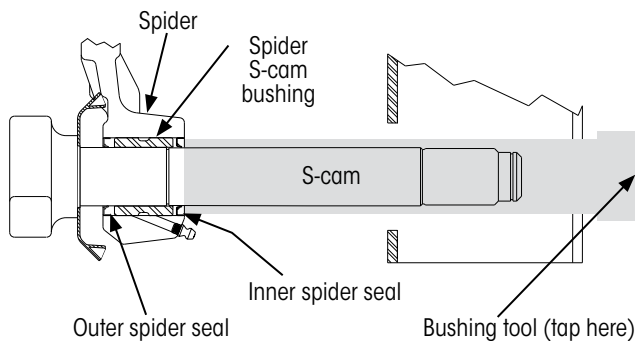

Figure 12: Spider S-cam bushing and outer seal removal
5. **Slide** the bushing tool (Figure 11 on page 13) over the end of the S-cam, and press it against the inner spider seal (Figure 12).
6. **Tap** on the end of the bushing tool to drive the inner spider seal, spider S-cam bushing and the outer spider seal out of the spider (Figure 12).